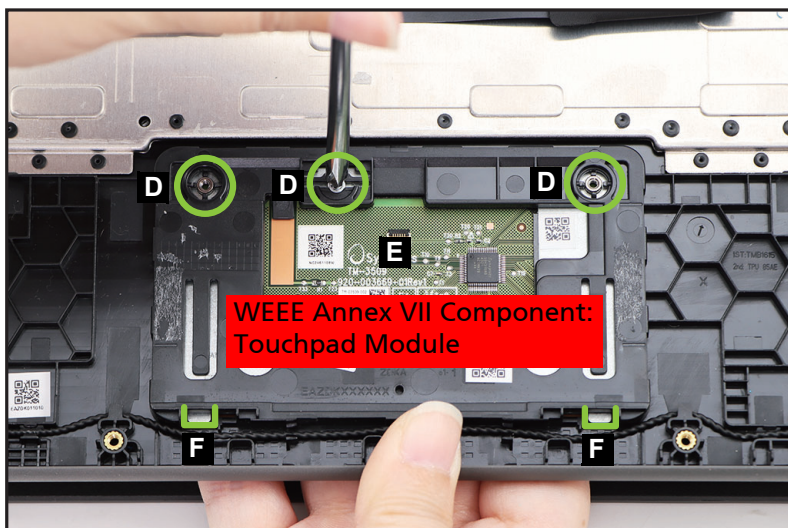

Figure 1-17. Touchpad Module Removal
6. Using the screwdriver, push the guide pins (D) firmly to release them from the top assembly (Figure 1-17).
7. Slide the touchpad module (E) slightly to disengage it from the bottom latches (F), and then remove the touchpad module from the top assembly (Figure 1-17).